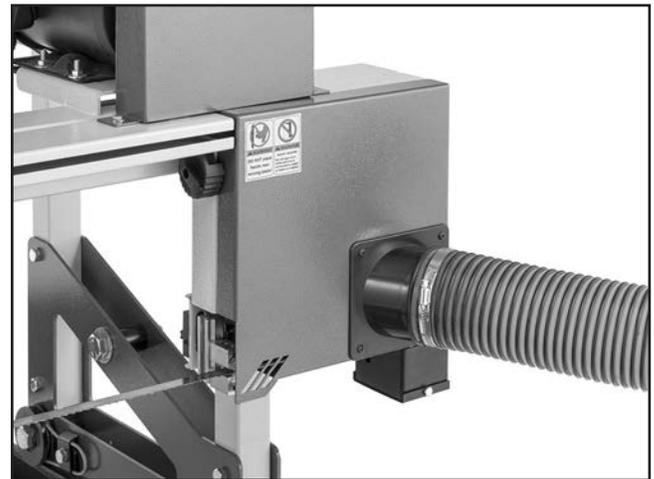

Figure 60. Dust hose attached to dust port.
1. Fit 4" dust hose over dust port and secure in place with hose clamp (see **Figure 60**).